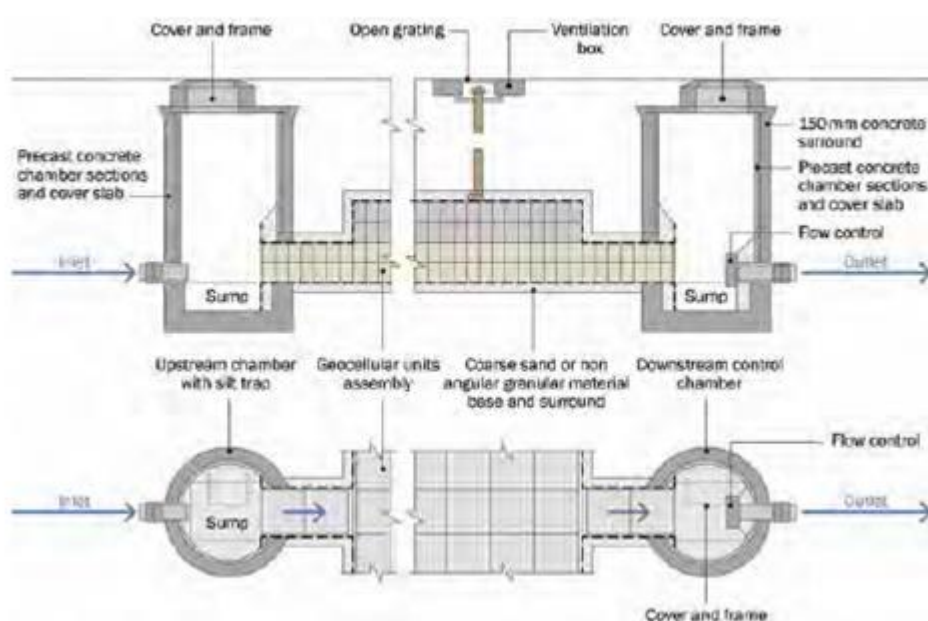

Figure 21.20 Example of sediment forebay
6. **Figure 21.20 of the CIRIA SuDS Manual:** the SuDS Manual states that “Sediment forebays or tunnels can also be provided within tanks, or can be combined with an upstream and downstream manhole to trap sediment in a location that is accessible. Figure 21.20 shows forebays in a geocellular construction combined with manhole construction at either end of the tank. However, these should not be considered a replacement for effective upstream treatment. The forebay should be easily accessible to clean out. This is the preferred option rather than inspection channels through the tank because the forebay should be accessible for easy visual inspection with the use of CCTV. Many manufacturers can supply specific inspection/forebay modules to incorporate into a tank.” Figure 21.20 is included below and illustrates a tank layout that is identical to that of a GEOLight® tank.